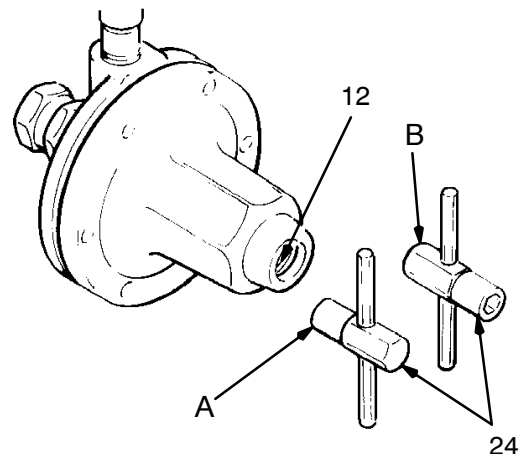

Fig. 3
- a. *Spring Operated Regulators Only (see Fig. 3).* The regulator can be fully opened in two ways:
- Using the male end (B) of the regulator key (24), turn the socket-head adjustment screw (19) fully *counterclockwise*. The pressure setting will be retained.
- Using the female end (A) of the regulator key (24), turn the adjustment screw (12) fully *clockwise*. You will have to reset pressure after flushing.
- a. *Spring Operated Regulators Only (see Fig. 3).* The regulator can be adjusted in two ways:
- Using the male end (B) of the regulator key (24), turn the socket-head adjustment screw (19) fully *clockwise*. Verify that the pressure setting has not changed.
- Using the female end (A) of the regulator key (24), turn the adjustment screw (12) *counterclockwise* to return to the desired pressure setting.
1. Close the regulator: engage the female end (A) of the key (24) with the adjusting screw (12) and turn it *counterclockwise* to relieve the spring tension. See Fig. 3.
3. Turn the key (24) *clockwise* to increase fluid pressure. See Fig. 3. Adjust for the desired spray pattern.